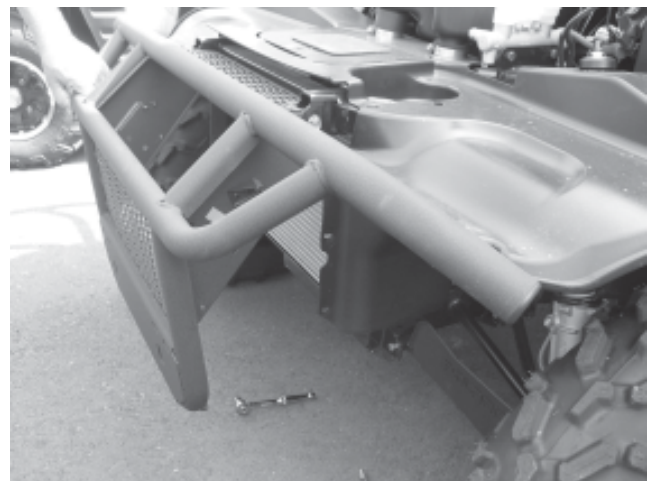
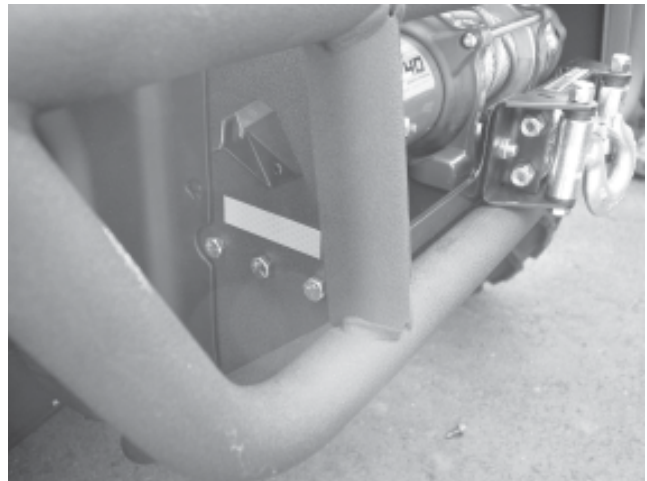

Figure 6
Figure 8
5. Grab bottom of bumper and rotate up around top pivot points, as shown in Figure 6, this allows mounting plate to be installed from back side of bumper.
7. With bumper rotated up, as shown in Figure 6, position winch mount assembly in place and secure with six 5/16-18x1 capscrews and locknuts through bumper frame as shown in Figure 8. Use 1/2" socket to tighten in place and torque to 17lb. ft. (12.5 N-m).